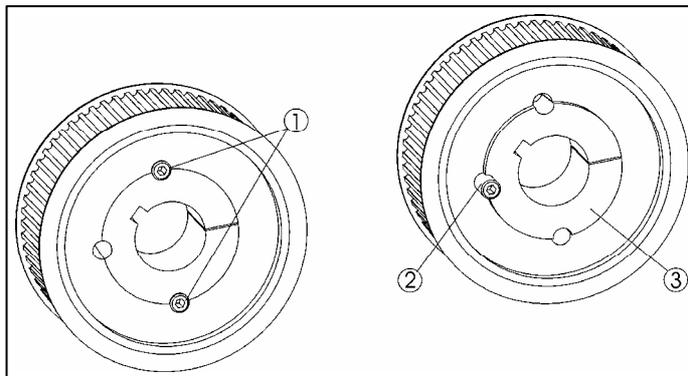

Fig. 7.7
- Demount the screws (1) in the belt pulleys. Lubricate the thread and the tip of the screw and turn it into the bore (2) as shown in fig. 7.7.
- Turn the screw until the taper lock (3) is loosely seated inside the pulley and, thus, the assembly is loose on the shaft.
- Lubricate the screws slightly and insert them into the respecting threaded holes (1).